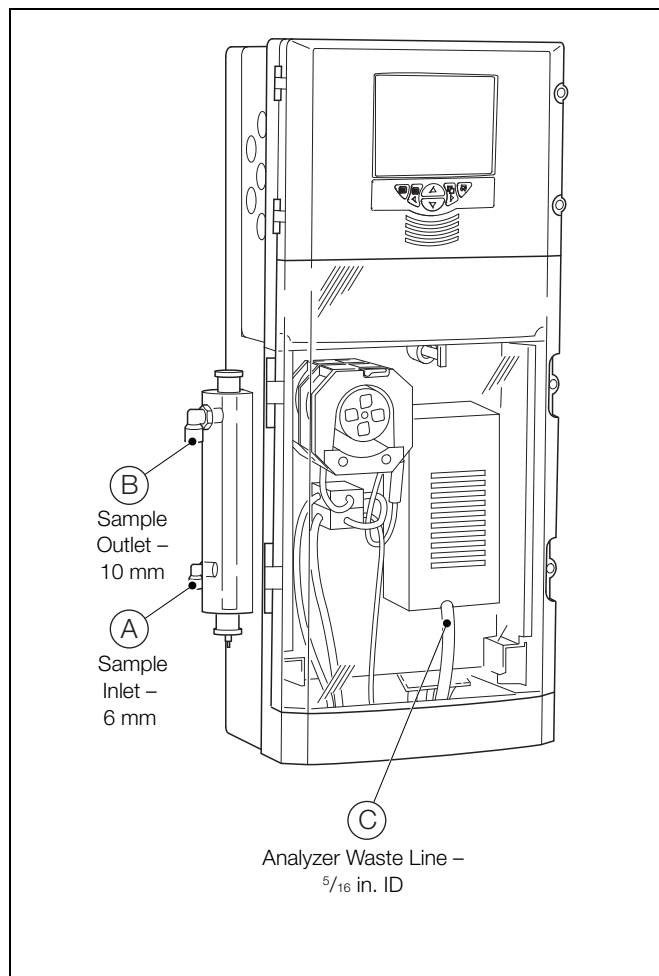

Fig. 3.9 Connecting the Sample Inlet, Drain and Analyzer Waste Lines
The sample outlet line ((B) in Fig. 3.9) must be routed to maintain a gravity-fed drain.
1. Connect the sample supply line to sample inlet connection (A) (6 mm OD tubing).
2. Connect the drain line to sample outlet connection (B) (10 mm OD tubing).
A 0.5 m (1.64 ft) length of flexible $\frac{5}{16}$ in. internal diameter PVC tubing ((C) in Fig. 3.9) is supplied fitted to the flowcell drain connection and routed through the grommet in the hole in the bottom tray. Connect it to either an appropriate waste drain or container.